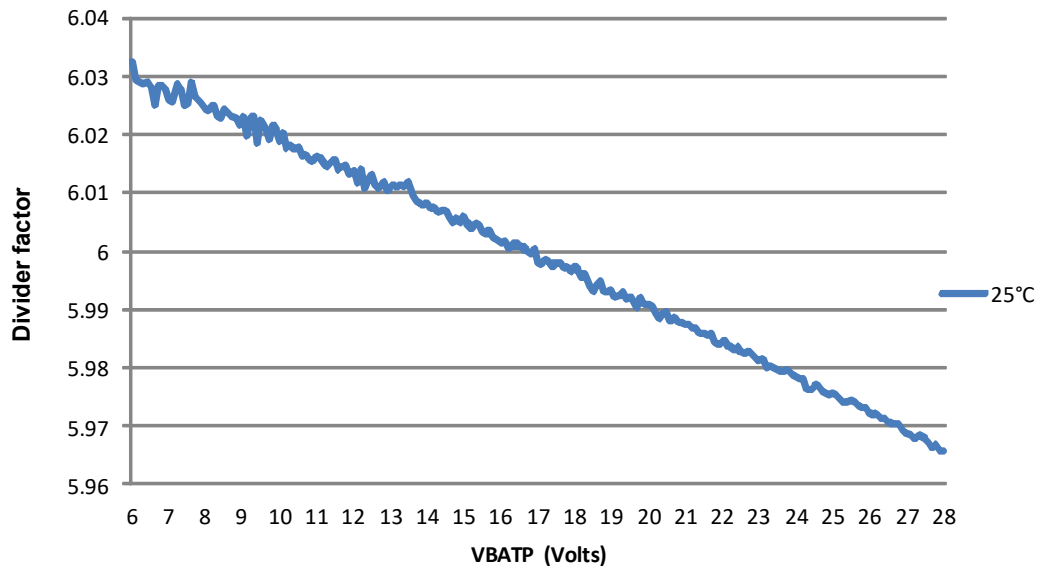

Figure 5. Divide by 6 coefficient accuracy
23. Calibration of divider ratio can be done at  $V_{BAT} = 12\text{ V}$ ,  $25\text{ }^{\circ}\text{C}$  to achieve a higher accuracy. See Figure 5 for AMUX offset linearity waveform through the operating voltage range.